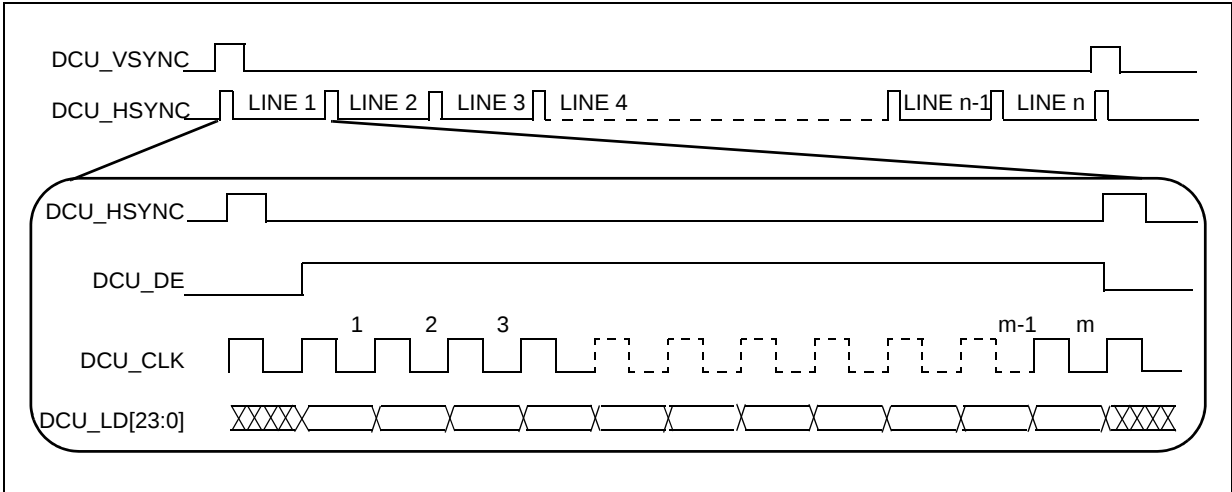

Figure 29. TFT LCD interface timing overview¹
Figure 29 depicts the LCD interface timing for a generic active matrix color TFT panel. In this figure signals are shown with positive polarity. The sequence of events for active matrix interface timing is:
1. In Figure 29, the “DCU_LD[23:0]” signal is an aggregation of the DCU’s RGB signals—DCU_R[0:7], DCU_G[0:7] and DCU_B[0:7].